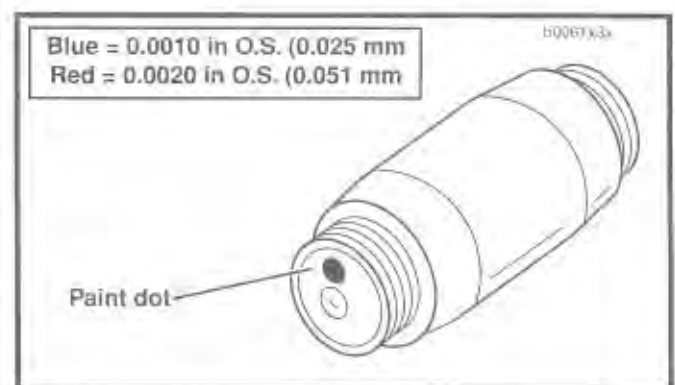

Figure 3-83. Oversize Crank Pin Identification
- See Figure 3-83. Oversize (OS) crank pins are available in two oversizes: 0.0010 and 0.0020 in. (0.025 and 0.051 mm) OS crank pins will have a blue or red paint dot applied to the ends of the pins. A blue dot indicates 0.0010 in. (0.025 mm) OS, a red dot indicates 0.0020 in. (0.051 mm) OS; Standard size crank pins will not be marked.